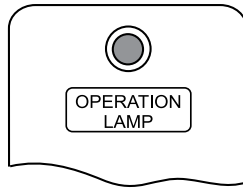

Figure 24. Operation Lamp
6. Verify operation lamp is lit (**ON**). Reference Figure 24.